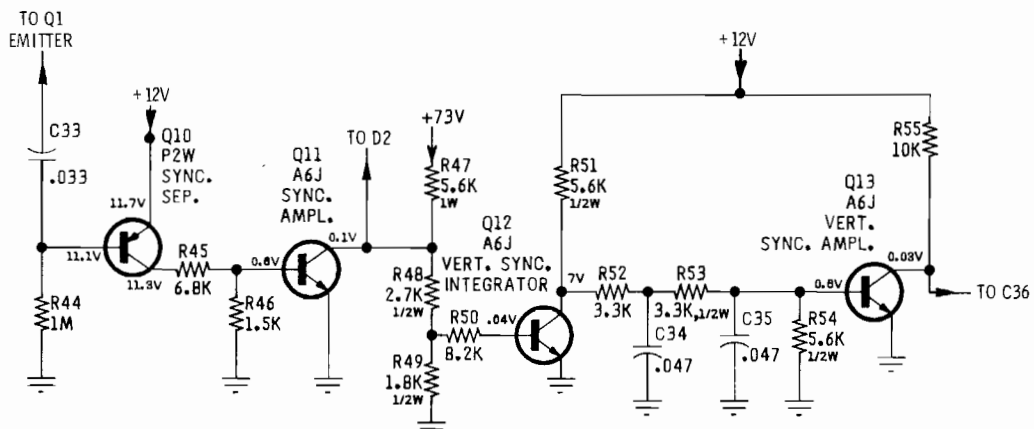

Figure 6.
**SYNC CIRCUITS** (See Figure 6.)